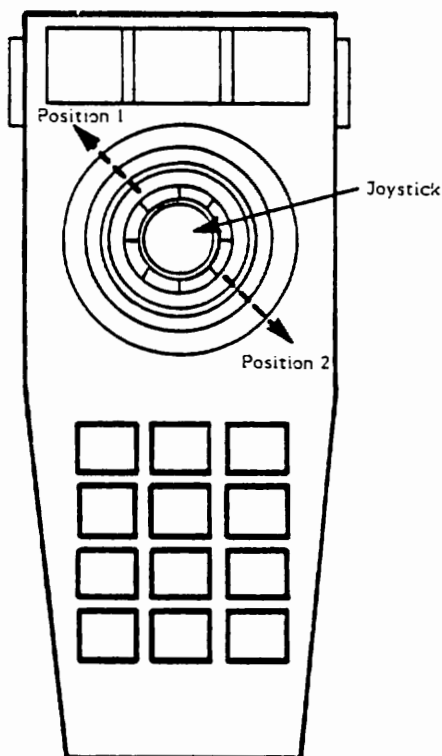

Figure 6-2. Joystick Positions 1 & 2
- 2) Press key 5 and then press START to bring up the Pokey Adjust Screen.
- 4) Move the controller joystick to position 1, as illustrated in Figure 6-2 below. The readings on the screen should be less than 25 for Port 1 (Port 1 - Horizontal and Vertical).
- 5) Move the controller joystick to position 2, as illustrated in Figure 6-2. The readings on the screen should be greater than 190 for port 1.
Use Figure 6-2 on Page 6-3 as reference for Steps 1 and 2.
- 5) Move the controller joystick to position 1 (refer to Figure 6-2). Use an Ohm meter to determine the pot readings through the cable (cable connector Pins 11 & 9 and 10 & 9). The pot reading should be no greater than 50K Ohms.
- 6) Move the controller joystick to position 2 (refer to Figure 6-2). The pot reading through the cable (connector Pins 10 & 9 and 11 & 9) should be at least 430K Ohms greater than in position 1.